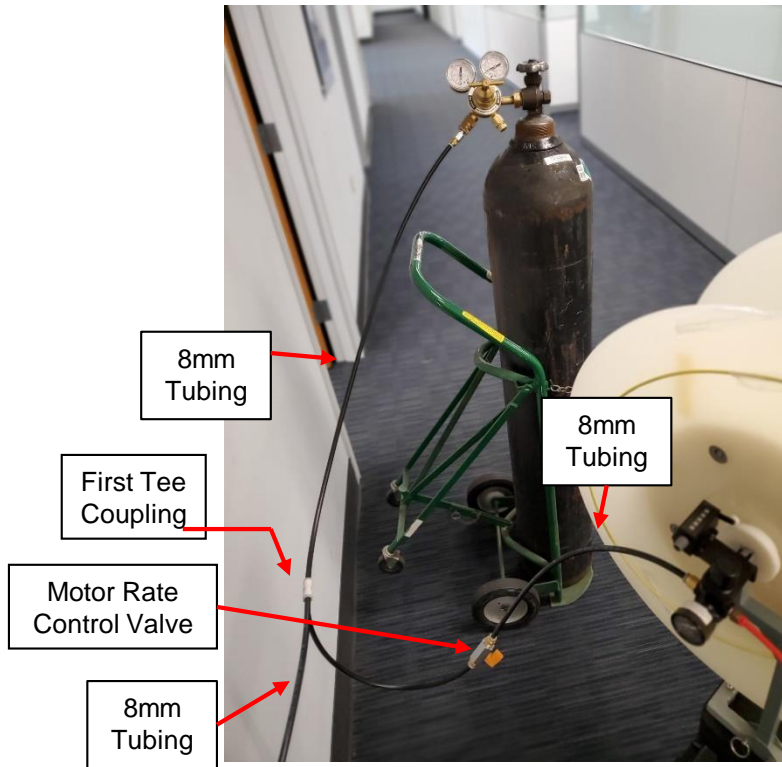

Figure 13
8.4 Push-fit Installer-provided length of 8mm tubing between Pressure Regulator’s 8mm Tubing Adapter and “First” Tee Coupling. (3’ - 4’ length suggested.) **See Fig. 13.**
8.5 Push-fit Installer-provided 8mm tubing between First Tee Coupling and one of the 8mm fittings on Motor Rate Control Valve. (6” - 9” length suggested.) **See Fig. 13.**
8.6 Push-fit Installer-provided 8mm tubing between the other 8mm fitting on Motor Rate Control Valve and the 8mm fitting on the Filter / Regulator Assembly. (2’ - 3’ length suggested.) **See Fig. 13.**